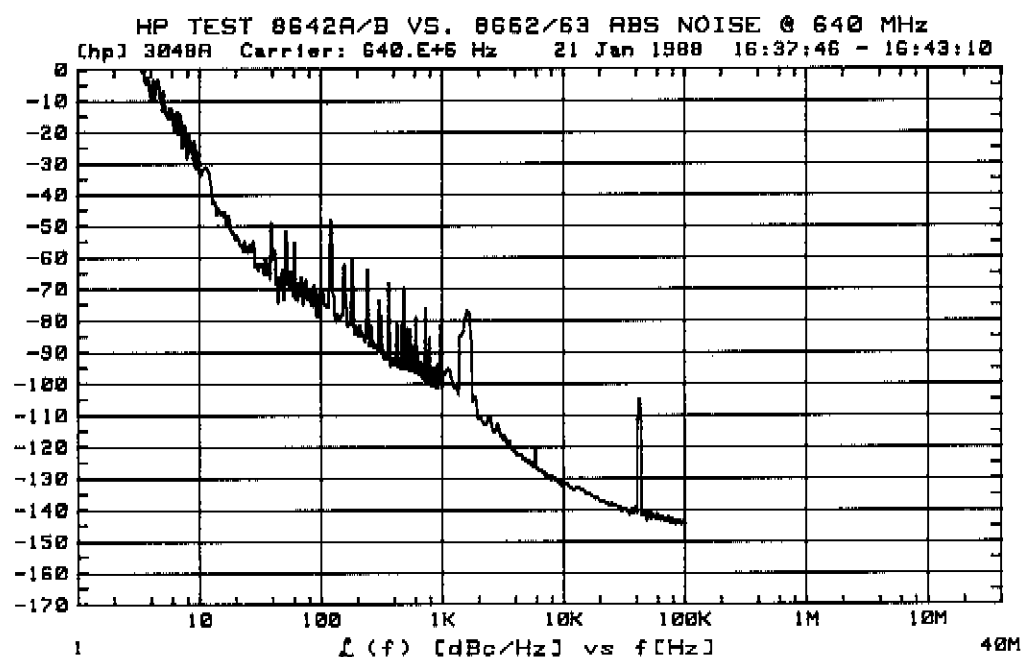

Figure 38. Typical Spectral Purity Tests Results with HP 8662A Reference Source
11. Press **[F1]** softkey. The measurement should proceed automatically without error messages. If the reference source is an HP 8662A Option 003 or HP 8663A Option 003, the measured noise should be similar to that shown in Figure 38 and should be less than -134 dBc at 20 kHz offset or -144 dBc at 100 or 200 kHz offset. If the reference source is an HP 8642A or HP 8642B, subtract 3 dB from the measurement results; the limits should then be as previously stated.